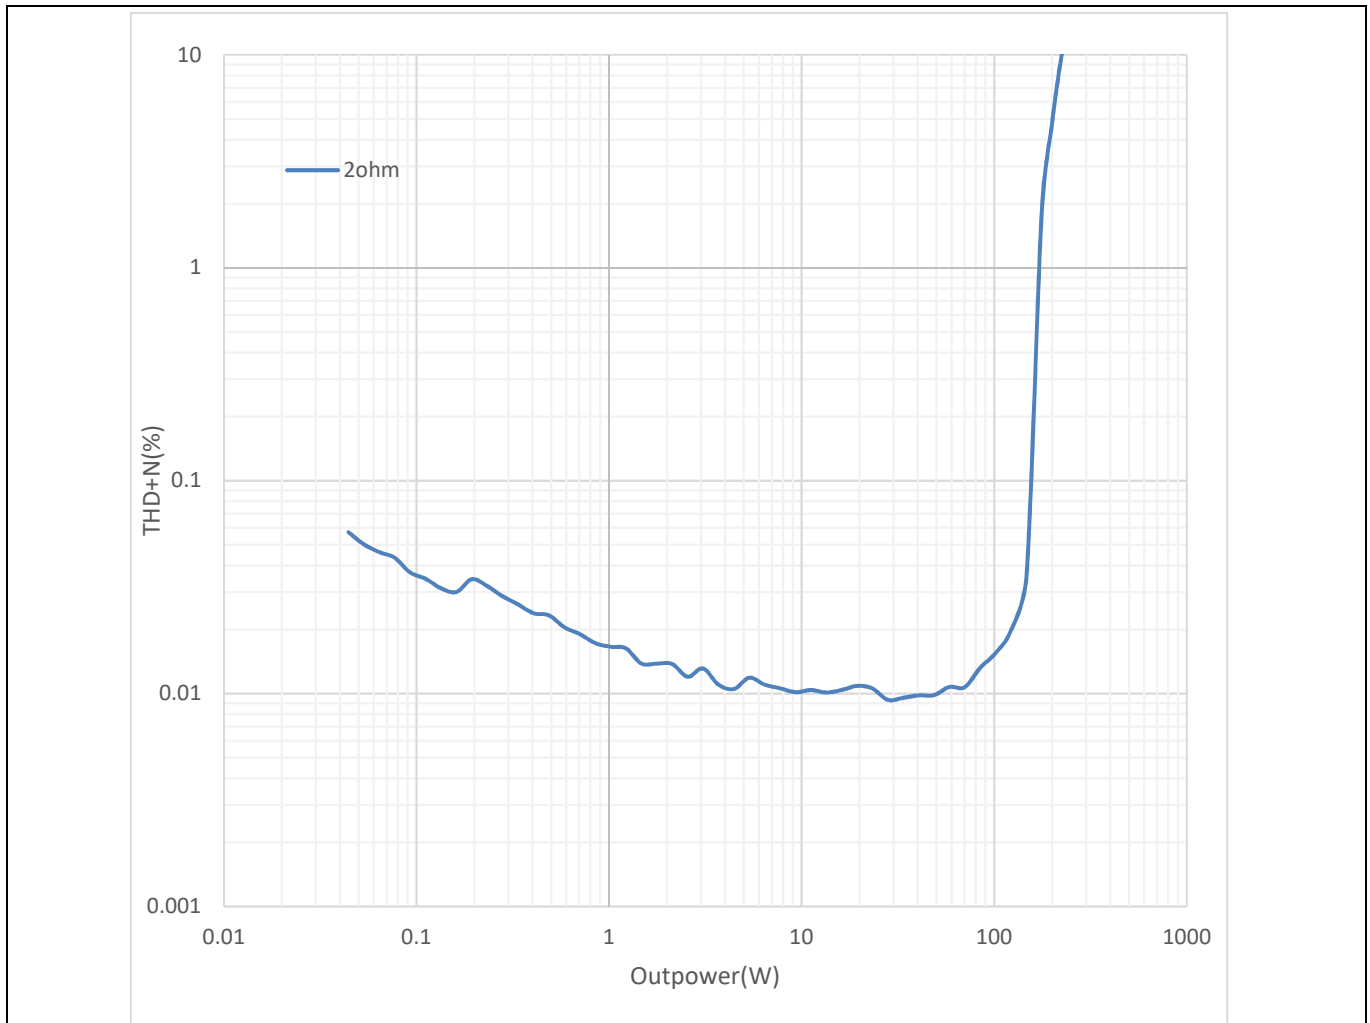

Figure 4 Power vs. THD+N $2\ \Omega$ load
8. Run the AP tests as shown in Figures 4 to 11, below.